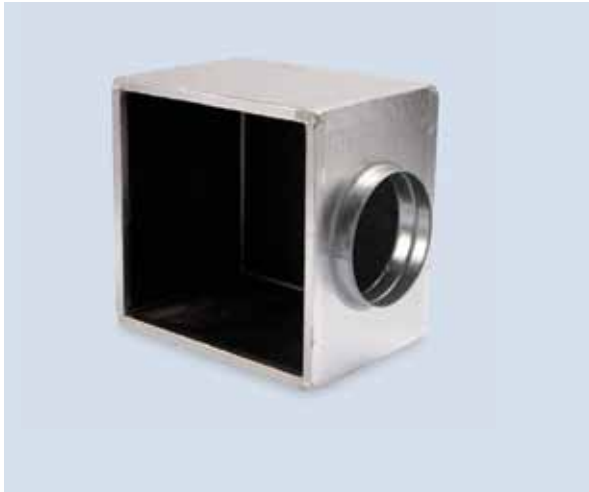

Figure 19.1 Pre-insulated Plenum Box
*Kingspan KoolDuct®* panels can be used in the fabrication of pre-insulated plenum boxes (see Figure 19.1). Whilst standard *Kingspan KoolDuct®* panels, faced with silver aluminium foil on both sides, can be used, *Kingspan KoolDuct®* panels are also available with black coated aluminium foil on one side (and the standard silver facing on the other). This black facing can be used on the inside of the plenum box, to avoid reflected glare. Like many other elements of the System, pre-insulated plenum boxes can be fully integrated with insulated sheet metal ductwork, as a weight and cost saving measure.